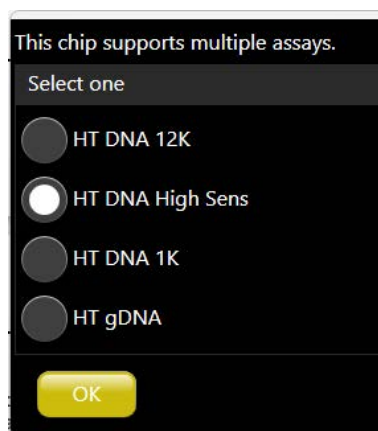
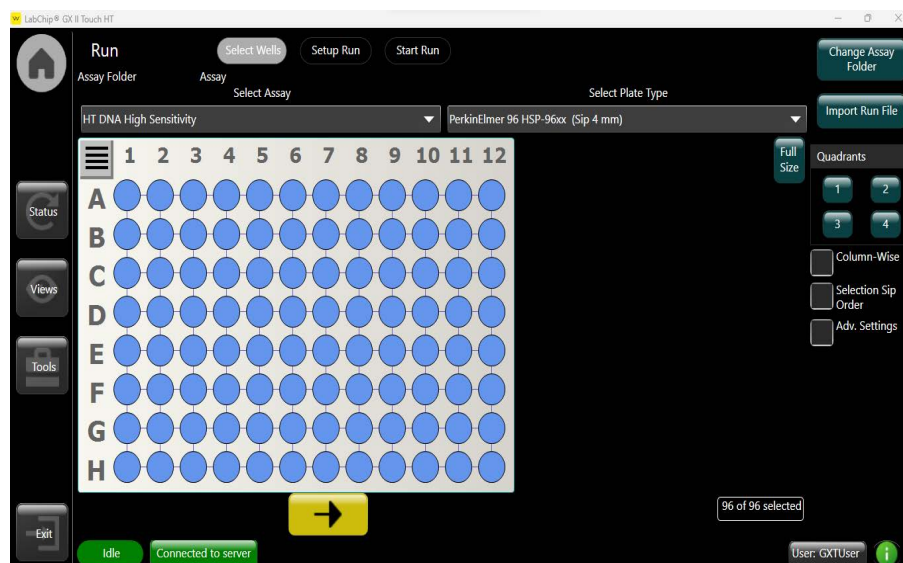

Figure 9. *Assay Choice* menu.
Figure 11. Selecting wells.
- 8 The *Assay Choice* window will appear (Figure 9). Touch the desired assay and then touch *OK*.
- 2 Select the appropriate assay type (see Figure 9), plate name, well pattern, and whether to read wells in columns or rows. Select number of times each well is sampled under *Adv. Settings* (Figure 11). Touch the *green arrow* button.